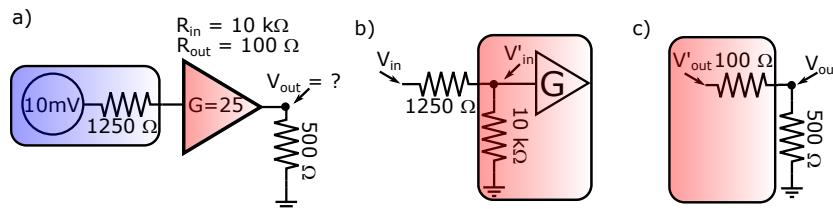

Figure 1.25: Example Problem.
**Design Example:** Consider a real amplifier with  $R_{in} = 10 \text{ k}\Omega$ ,  $R_F = 100 \Omega$ , and  $G = 25$ . We use it to amplify a  $10 \text{ mV}$  signal from a photo-detector having  $R_{out,PD} = 1250 \Omega$  and send it to a (lousy) voltmeter with  $R_{in,LVM} = 500 \Omega$  (see figure 1.25). What is the voltage measured (a) assuming an ideal  $G = 25$  amplifier, and (b) with our real amplifier?